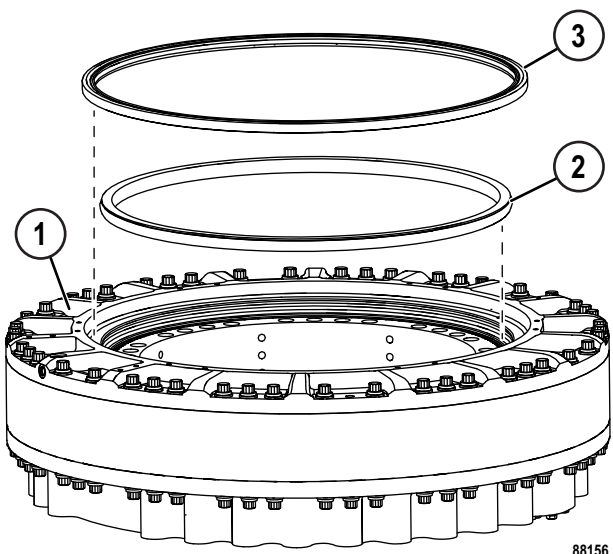

FIGURE 50-88. BRAKE SEAL INSTALLATION
21. Use installation tool (58F-98-40910) to install one half of floating seal assembly (5) into the seal carrier (4). Refer to the topic "Floating ring seal assembly and installation" for the proper assembly instructions for brake floating seal assembly.
*NOTE: Floating seal assembly (5) is one half the brake seal assembly.*
22. Place the necessary number of shims (2) that was determined in Step 18 at six locations around the wheel hub. Install speed sensor gear (3) and seal carrier (4) onto the wheel hub. Secure the components with capscrews (1).
23. Use installation tool (58F-98-40910) to install one half of seal assembly (2, Figure 50-88) into the back plate of brake assembly (1). Refer to the topic "Floating ring seal assembly and installation" for the proper assembly instructions for brake floating seal assembly.
*NOTE: Floating seal assembly (2) is one half the brake seal assembly.*
24. Pack the area between the lips of dust seal (3) grease, then install dust seal (3) into the back plate of brake assembly (1) with Loctite® #648.